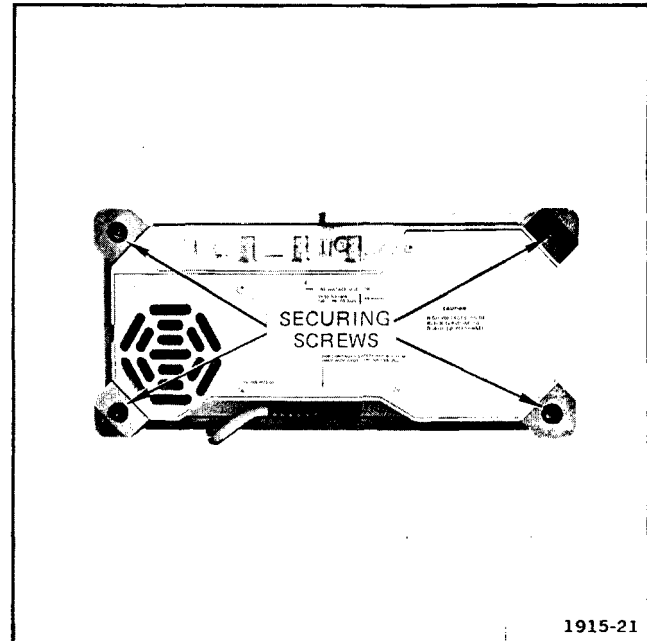

Fig. 4-1. Removing wrap-around cabinet.
2. Loosen the phillips-head screw located in each instrument foot. See Fig. 4-1.